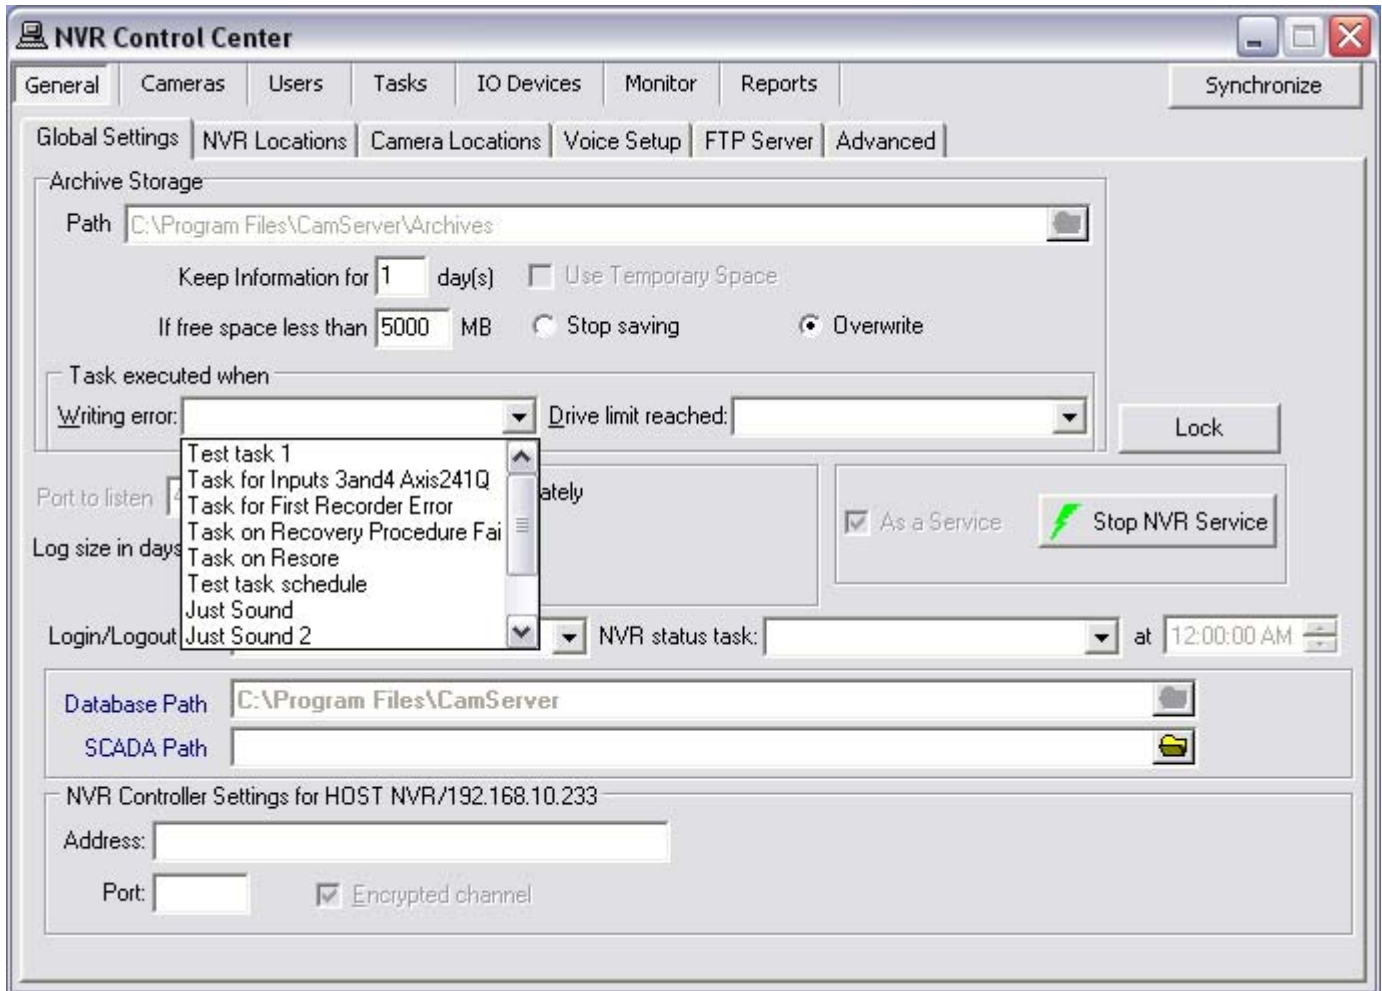

Fig 102. NVR Control Center — General — Global Settings
2. In the **Tasks executed when** section select an appropriate predefined task from the **Writing error** drop-down list (Fig 102) and the **Drive limit reached** drop-down list.